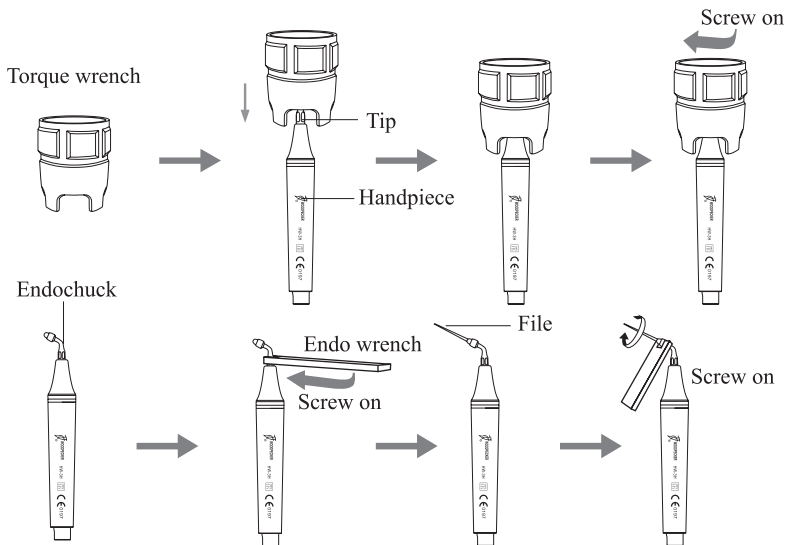

Figure 6
i) Select a suitable scaling tip as you need, screw it on the handpiece tightly by the torque wrench (See Figure 6).
2.1.3 Instruction of torque wrench (See Figure 6)
- ① Take the scaling tip into the torque wrench, operate as showed in figure 6.
- ② Tip installation: Hold the handpiece, turn the tip toward direction as showed in figure 6 with the torque wrench. Turn one more circles when the tip stops, then the tip is installed.
- ③ Tip uninstallation: Hold the handpiece, turn the wrench toward anti-clockwise direction.
- ④ Sterilize it in sterilizer after each treatment.
- ⑤ The torque wrench must be cooled naturally after sterilization to avoid scald when using next time.
- ⑥ Keep the torque wrench in a cool, dry and ventilated place and keep it clean.
- a) Fix endochuck to handpiece by endo wrench (See Figure 6).
The tip is loose because of vibration.	Screw on the tip tightly (See Figure 6).